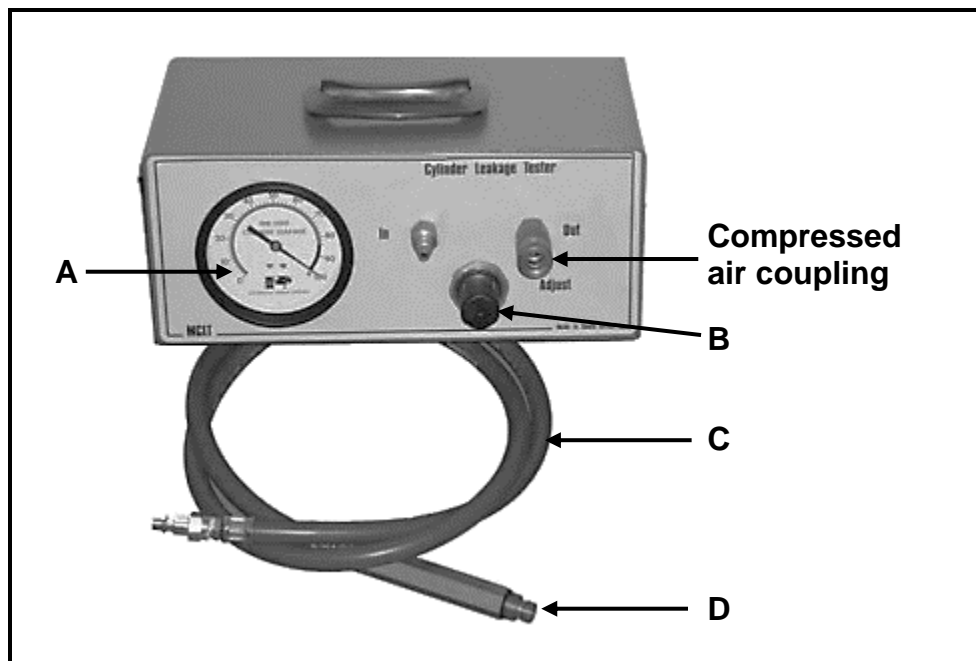

FIGURE 5.2
STEP 5 5.1.1 (1)
STEP 6 5.1.2 (1)
STEP 7 5.1.3 (1)
STEP 8 5.1.4 (1)
5.2 Answer the questions related to the cylinder leakage tester shown in FIGURE 5.2 below.
5.2.1 Label parts **A–D** in FIGURE 5.2 above. (4)